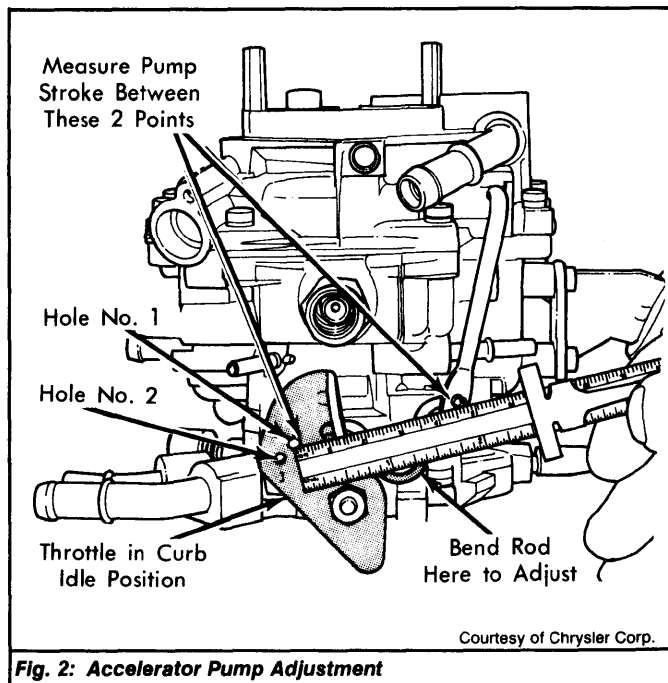

Fig. 2: Accelerator Pump Adjustment
2) Place throttle lever in curb idle position. Measure accelerator pump distance between center of rod in throttle lever to center of rod in accelerator pump arm. See Fig. 2. To adjust, bend existing loop in accelerator pump operating link. See appropriate CARBURETOR ADJUSTMENT SPECIFICATIONS table.